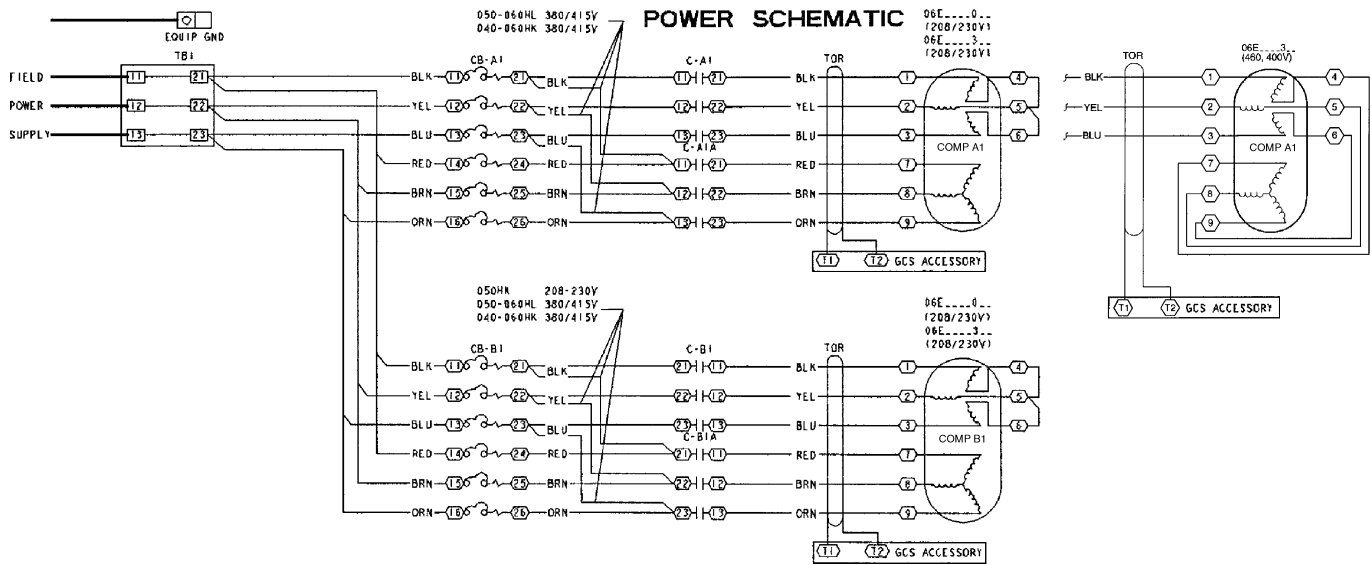

Fig. 14 — 30HK,HL,HW and 30GTN Toroid Field Wiring, One or Two Contactors, ComfortLink™ Units
3. Connect the toroid leads to GCS-A-T1 and GCS-A-T2. See Fig. 14 for all units.
6. Connect the toroid leads to GCS-B-T1 and GCS-B-T2. See Fig. 14.